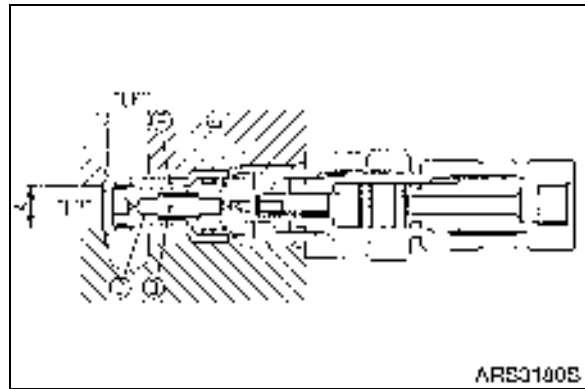

Figure 21
1. The main relief valve is located between neutral oil passage (HP, Figure 21) and low pressure oil passage (LP). Pressurized oil flows into neutral oil passage (HP) through orifice in the main poppet (C) to fill internal cavity (D). Due to the difference in areas between (A) and (B), on which hydraulic pressure acts, main poppet (C) seats on sleeve (E).
2. When pressure in neutral oil passage (HP) rises and exceeds relief valve setting, pilot poppet (F) opens. Pressurized oil flows through pilot poppet (F) into low pressure oil passage (LP), passing through hole (G).
3. As pilot poppet (F) opens, pressure in internal cavity (D) lowers to move main poppet (C) so that pressurized oil flows into neutral oil passage (HP) and directly into low pressure oil passage (LP).